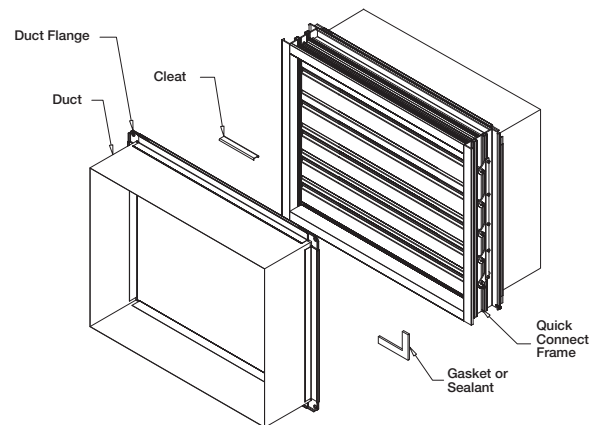

Figure 5: Quick Connect Frame
- 2) To seal the two flange systems together Neoprene or Butyl gasket may be applied to the mating surfaces (Figure 5).